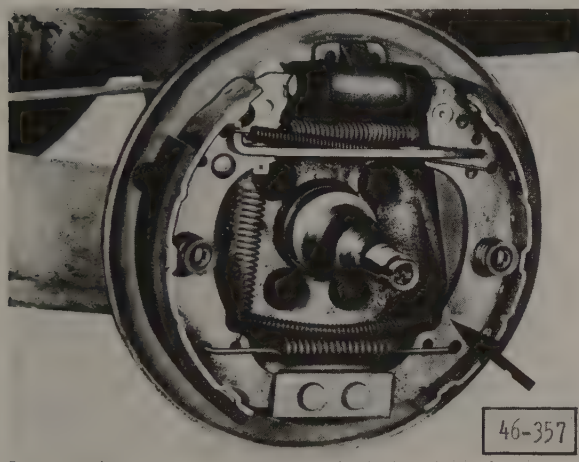

Fig. 6-4. Parking brake cable attachment to lever on rear brake shoe (arrow).
6. Unhook the parking brake cable from the lever that is attached to the rear brake shoe. See Fig. 6-4.